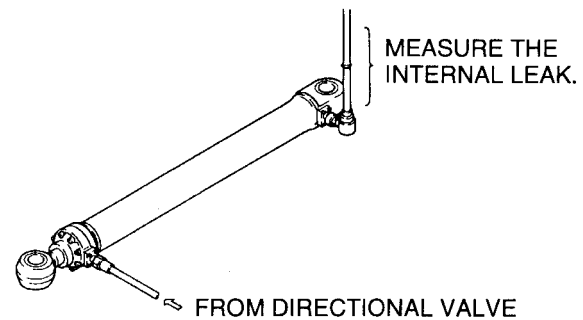

Fig. 1-35 Internal leak test
### (2) Leak test (See Fig. 1-35)